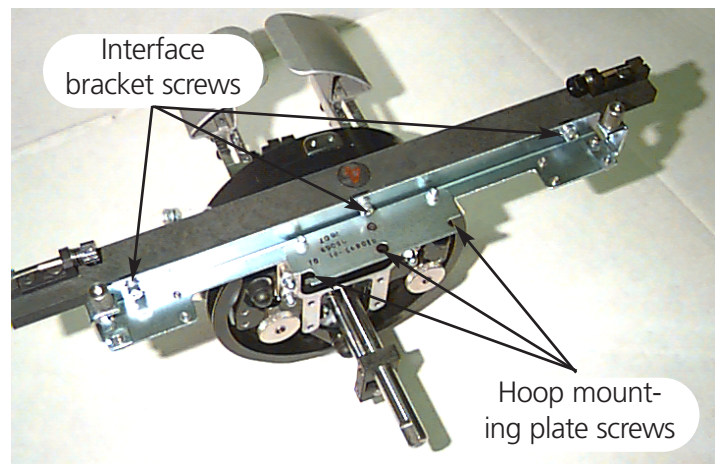

**Figure 3-18**
7. Tighten the thumb screws on the rear mounting bracket and on driver dove-tail support bracket (see Figure 3-18).